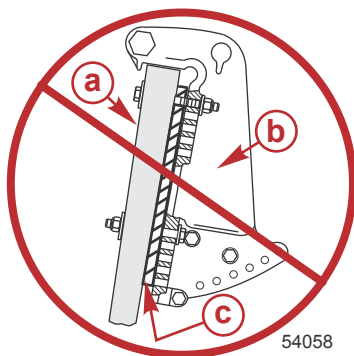

Figure 4
- Do not install wedges or plates between the transom clamp brackets and the transom (or jack plate). Refer to Figure 4.